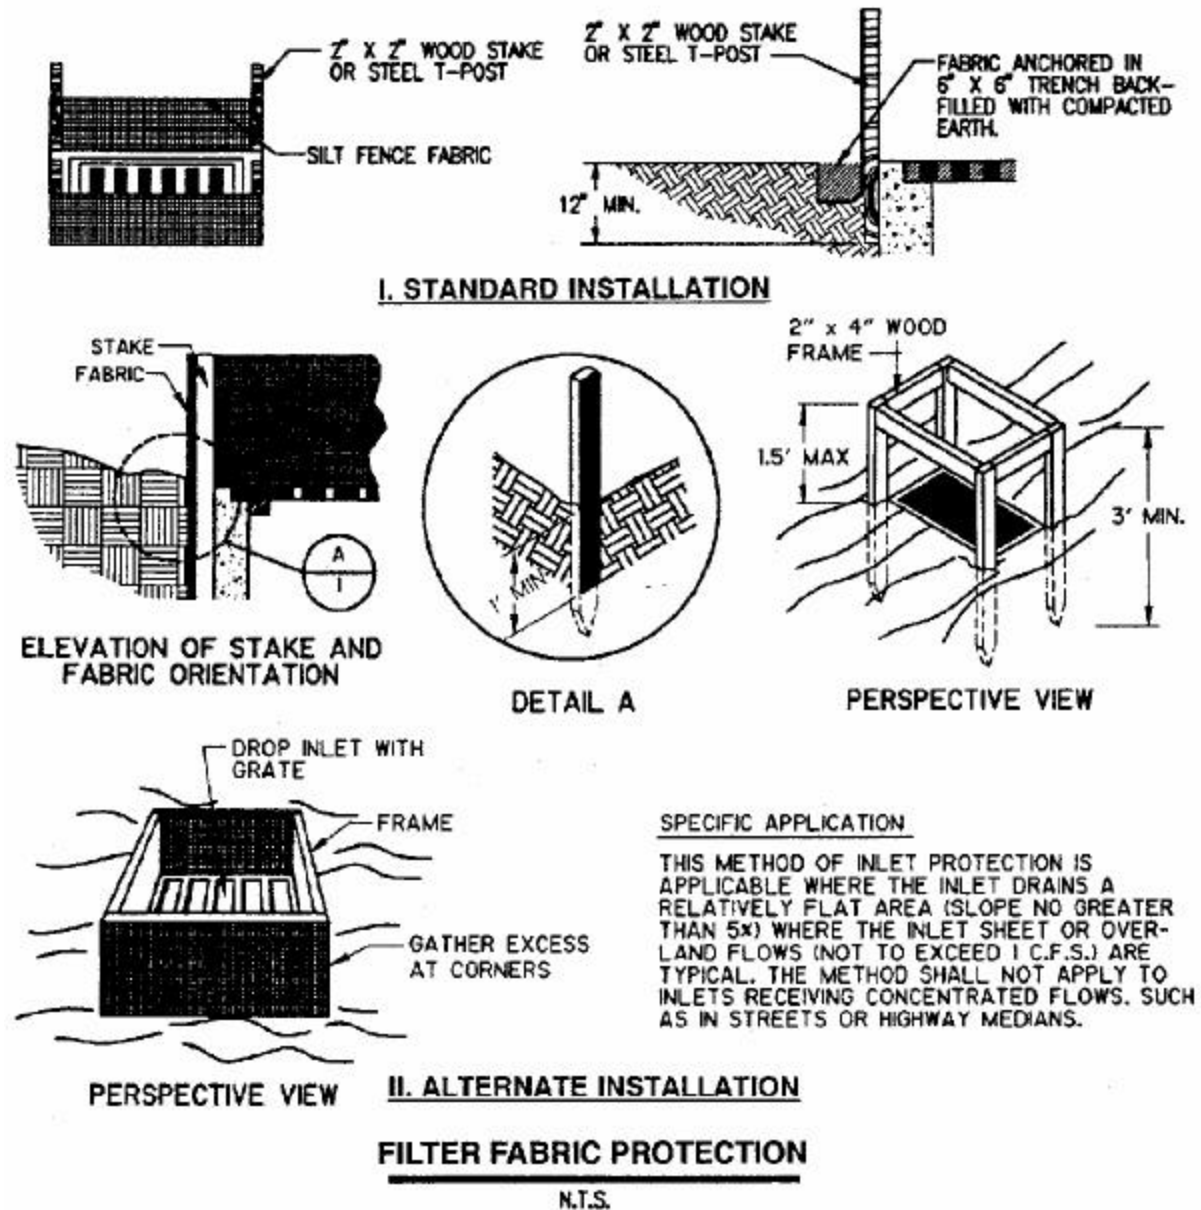

Figure 1-33 Filter Fabric Inlet Protection (NCTCOG, 1993)
- (1) Silt fence should conform to the specifications listed above and should be cut from a continuous roll to avoid joints.
- (2) For stakes, use 2 x 4-inch wood or equivalent metal with a minimum length of 3 feet.
- (3) Space stakes evenly around the perimeter of the inlet a maximum of 3 feet apart, and securely drive them into the ground, approximately 18 inches deep (Figure 1-33).
- (4) To provide needed stability to the installation, a frame with 2 x 4-inch wood strips around the crest of the overflow area at a maximum of 1½ feet above the drop inlet crest should be provided.